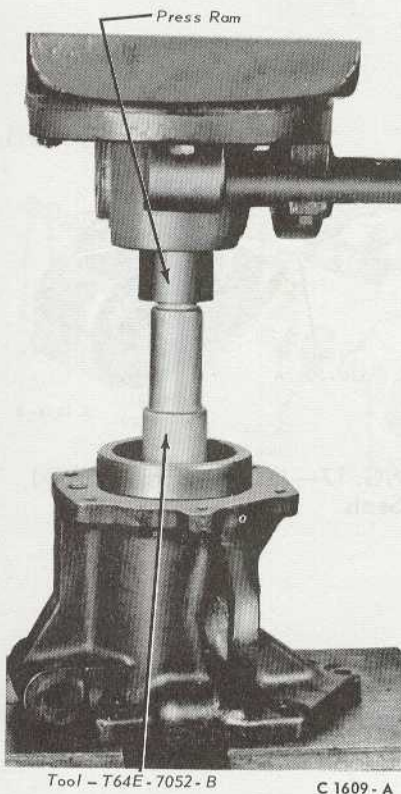

FIG. 11—Installing Adapter Housing Seal
5. If the adapter housing seal was removed, install a new seal with the tool shown in Fig. 11.